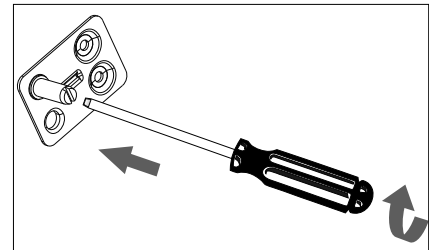

Fig. 7
- ▶ Reposition the hinge pin in the opposite hole (Fig. 7) and tighten it with a slotted screwdriver.